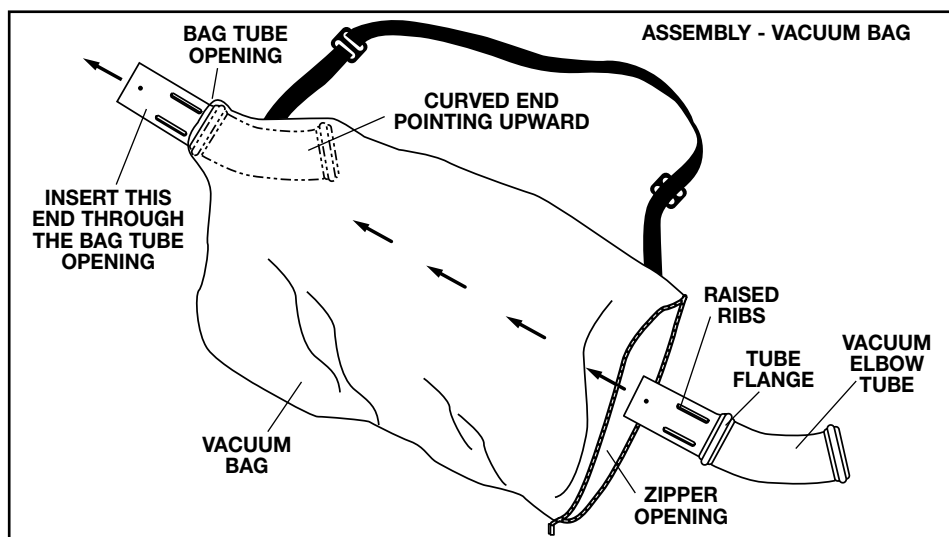

Fig. 10
NOTE: For electric vacuum kits, the shorter end of the vacuum bag elbow tube with the raised ribs should be inserted through the zipper opening (Fig. 10).
- Insert the vacuum elbow tube through the zipper opening in the vacuum bag (Fig. 10), then through the bag opening in the other end of the bag, until the bag tube opening is seated against the tube flange.
- a. Remove the vacuum bag elbow tube. (Reverse the procedure shown in Fig. 10.)
- f. Reinstall vacuum bag elbow tube (Fig. 10).